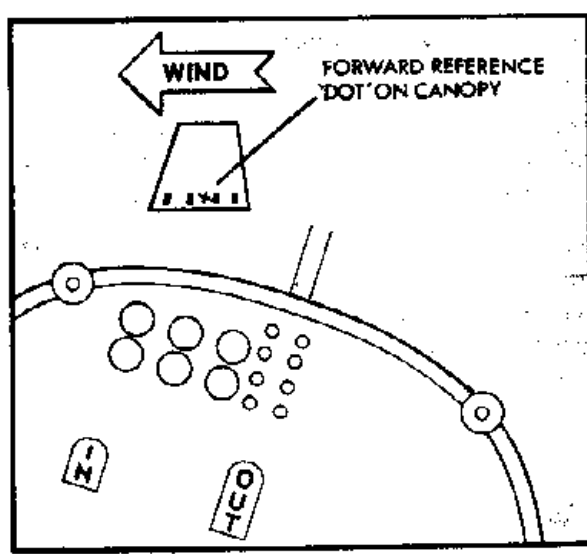

Figure 6.4. Aiming Short of Touchdown Point.
6.3.5.6. The second and most difficult objective is visualizing a constant glide path to the roundout and touchdown position. In the normal landing configuration (full flaps), the T-37 flight attitude is such that the aircraft is aimed (putting the level flight horizon reference) at a position (aim point) short of the intended touchdown point (figure 6.4). You should aim short of the intended touchdown point because of the delay during the roundout. Plan to touch down within the first 1,000 feet of the runway. This does not mean that routinely landing in the first few feet or 1,000 feet down the runway is acceptable. Your main objective is to strive for a touchdown with the proper landing attitude at a point on the runway that provides an adequate safety margin against landing short, yet allows the aircraft to easily stop within the available runway. In determining your aim point, consider all factors such as wind, runway length, aircraft weight, flap setting, etc.